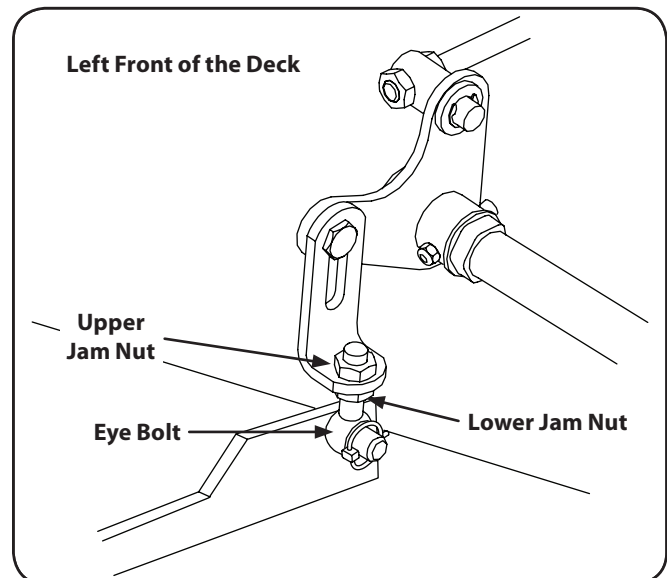

Figure 6-6
4. Adjust the eyebolt at the left front of the deck so that the blade-to-ground height at the right front blade tip matches that of the left front blade tip. This is done by loosening the jam nuts on the eyebolt and tightening the upper nut to raise the deck and loosening the nut to lower the deck. The right front blade tip height is fixed so you must adjust the left front tip to match it. See Fig. 6-6.